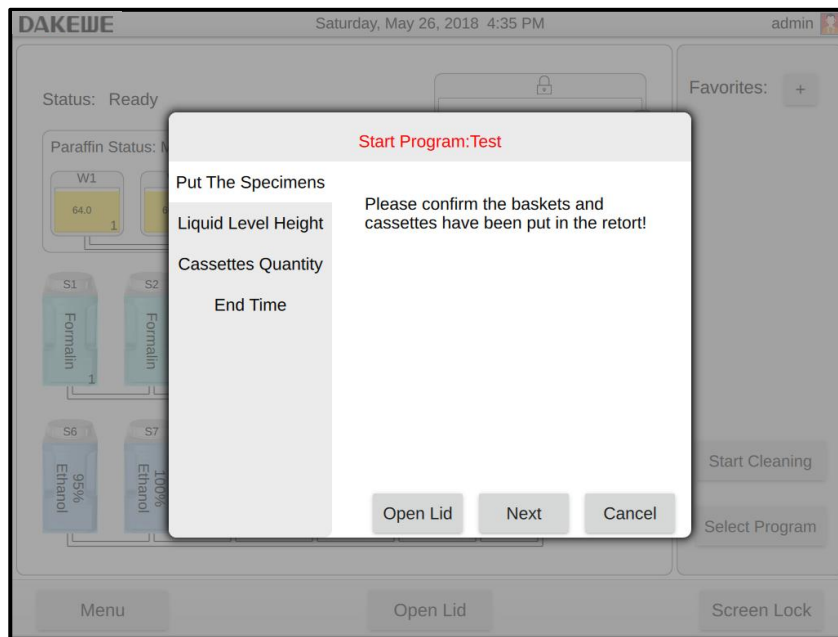

Figure73
- The confirmation window pops up. After confirmation, click “Next” (Figure 73).